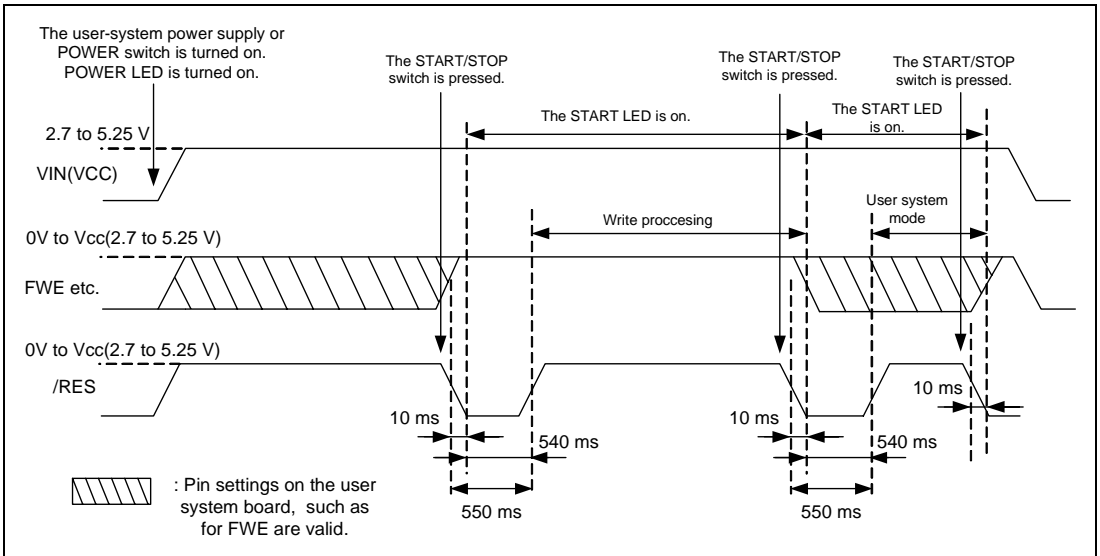

Figure 5.1 Reset Signal, 2.7- to 5.25-V Application, and Stop Timing (Control sequence 1)
3. After 10 ms of the falling edge of the $\overline{\text{RES}}$ signal, 2.7- to 5.25-V application to the FWE/FWP pin starts or stops (figure 5.1).